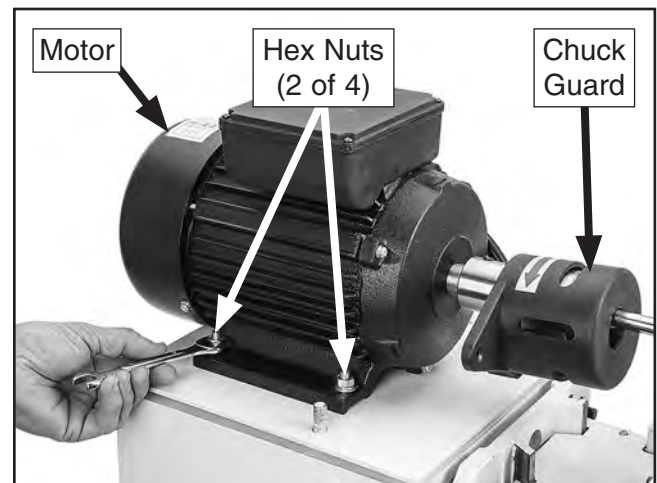

Figure 40. Loosening motor mount hex nuts.
8. Remove (4) hex nuts, lock washers, and flat washers securing motor cover to machine body, then lift off cover.
9. Loosen (4) hex nuts securing motor to machine body (see **Figure 40**), and shift motor to square chuck with table. Repeat **Steps 5–6** to adjust motor position until chuck is square to table.